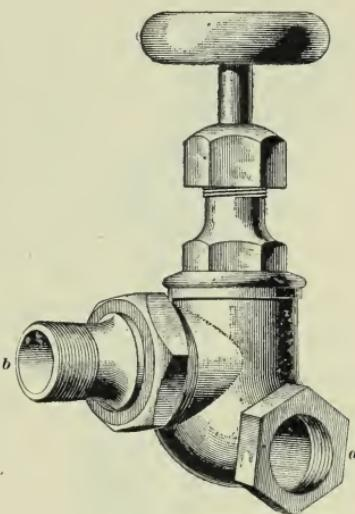

FIG. 77
**123.** An **offset corner valve** is shown in Fig. 77. It is the same in construction as the offset globe valve, except that the inlet *a* and outlet *b* are at right angles. It is really an offset angle valve with the outlet at an angle of  $90^{\circ}$  to the axis of the inlet seat at the lower level. The construction of the working parts is the same as that of any globe valve. Offset corner valves are made right hand or left hand to suit the connection in the radiator, and are listed by most makers. The corner valve with the inlet and outlet in the same plane is not made by many manufacturers.
**124.** All the valves mentioned in the previous articles can be obtained with special key handles, and also with a shielded stem that protects the square that the key fits, so that they cannot be moved without the key. These valves are useful in schools, asylums, etc., as unauthorized persons cannot meddle with them. They are also made with a ground union joint for connecting to the radiator, as shown in Fig. 77, which makes it easy to connect and disconnect the radiator without disturbing the pipe connections.